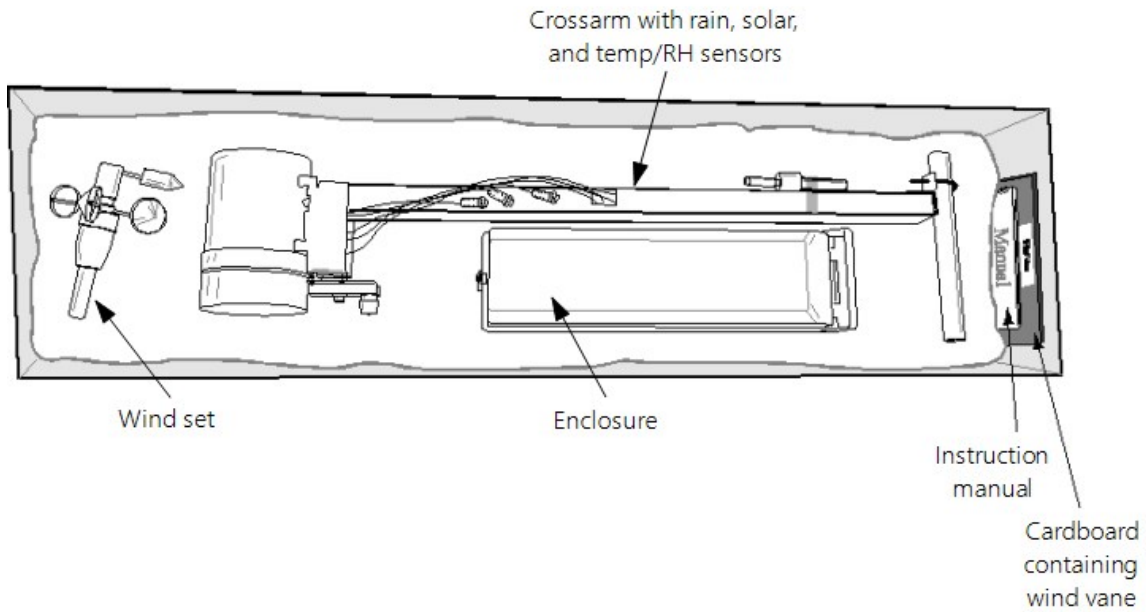
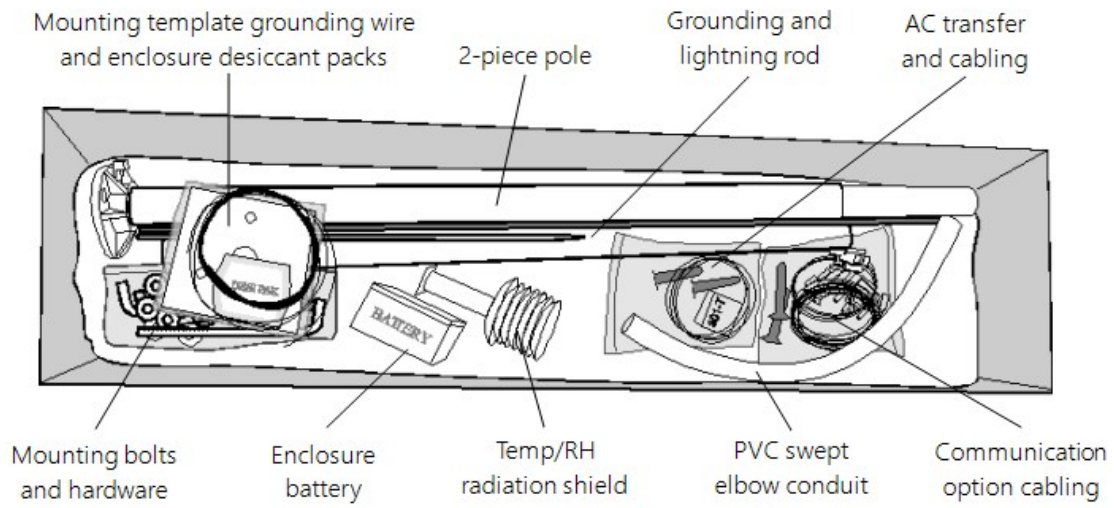

FIGURE 3-3. ET107 with the Met One 034B-ETM Wind Sensor, top layer
FIGURE 3-4. ET107, bottom layer
7. Check contents against invoice and shipping checklist (FIGURE 3-3 (p. 4), FIGURE 3-4 (p. 5)) and contact Campbell Scientific immediately about any shortages.